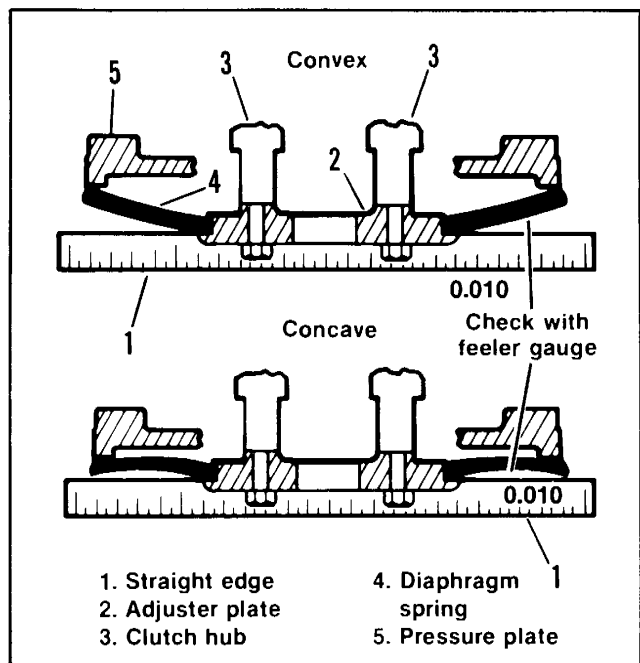

Figure 6-20. Checking Diaphragm Spring Adjustment
5. See Figure 6-20. Place a straightedge across the face of diaphragm spring, against the adjuster plate. With a feeler gauge, measure between the spring and straightedge. If there is a gap of more than 0.010 in., the compression of the spring needs adjustment.
See Figures 6-20, 6-21. Spring compression is adjusted by using the different bolt hole positions on the adjuster plate. If the spring is bowed outward over 0.010 in. in the center (convex), the plate is moved to the next hole position of greater compression. If the spring is dished inward over 0.010 in. in the center (concave), the adjuster plate is moved to the next position of less compression. The recommended spring position is flat to 0.010 in. concaved.